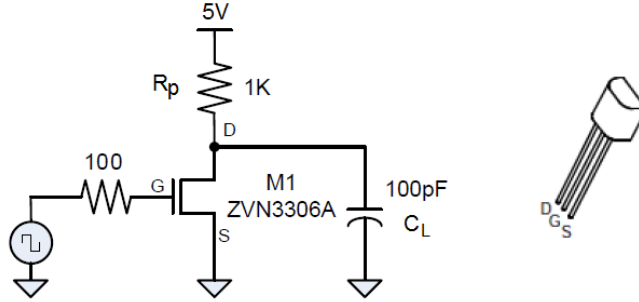
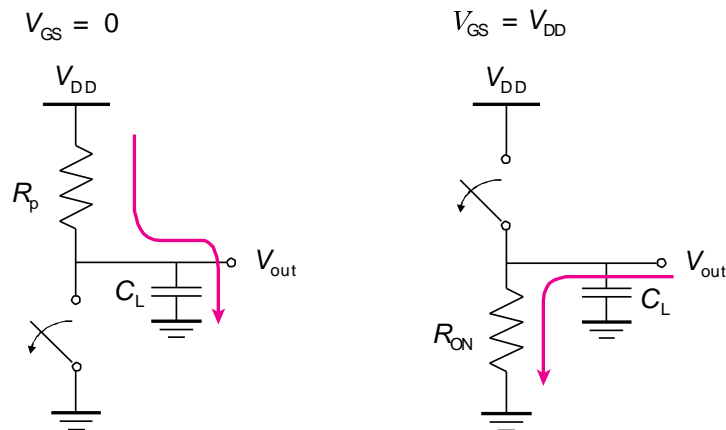

Figure 1. Open-drain logic inverter circuit (NOT gate) using a NMOS.
Figure 2. The switching dynamics of the NMOS inverter.
Inverters can be constructed using a single NMOS transistor or a single PMOS transistor coupled with a resistor. Figure 1 shows a simple open-drain logic inverter (or a low-side switch). Since this 'resistive-drain' approach uses only a single type of transistor, it can be fabricated at
low cost. When the gate voltage is below the NMOS threshold (logic low state), the transistor is OFF, the output voltage depends on the ratio of pull-up resistor R_p and the load. In the case of an open load as shown in Fig. 1, the output voltage will be $V_{DD} = 5\text{ V}$ (logic high state). The transient from output low to high state is shown in left pane of Fig. 2. The transient time, also known as gate response time is determined by the time to charge C_L through the pull-up resistor, R_p , $t_r \approx R_p (C_{FET} + C_{probe} + C_L)$, where C_{FET} is the capacitance of the NMOS junction and C_{probe} is the capacitance of the probe during the measurement with an oscilloscope.
When the gate voltage is above the NMOS threshold, the transistor is ON, the output voltage can be calculated from a resistive voltage divider formed by the pull-up resistor R_p (1 K Ω in Fig. 2) and the on-resistance R_{on} of the MOSFET,
The transient from output high to low state is shown in right pane of Fig. 2. The gate response time is determined by the time to discharge C_L through the on-resistance of NMOST transistor, R_{on} , $t_f = R_{on} (C_{FET} + C_{probe} + C_L)$. By measuring the falling edge t_f , the on-resistance of the MOSFET can be estimated.
You will be constructing several circuits. Pay careful attention to the pin-out of the transistors to avoid damaging them. The NMOS and PMOS parts have the same pin out, as shown in Figure 1.
Question 1. For the circuit shown in Fig. 1, draw the load line on the I - V characteristic of ZVN3306A shown in Fig. 10 where V_{GS} is varied from 0 V to 5 V at a step of 0.5 V (not all V_{GS} are labelled on the plots).
Question 2. Given the on-resistance of a ZVN3306A NMOS transistor is $10\ \Omega$ at $V_{GS} = 5\text{ V}$ and $I_{DS} = 100\text{ mA}$, what is the transient time of switching from 0 V to 5 V and from 5 V to 0 V for the inverter circuit shown in Fig. 2. Which is shorter?
2. Construct the NMOS inverter/low-side switch as shown in Fig. 1, except set the supply voltage in all circuits to 5 V instead of 3.3 V.